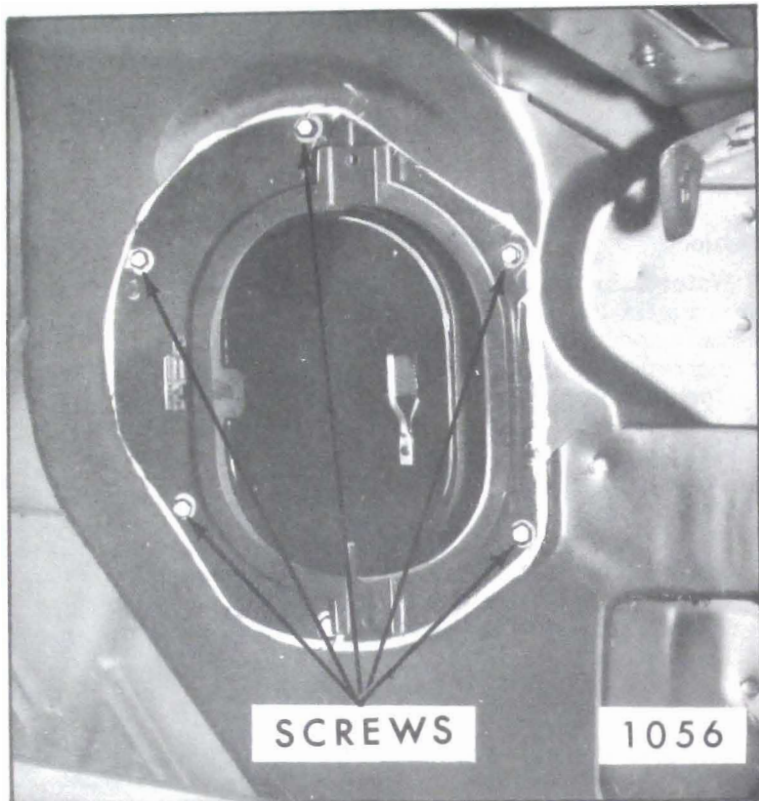

Fig. 3-2—Shroud Side Air Outlet Duct
2. Remove screws securing outlet to shroud panel, disengage control cable from outlet and remove outlet (Fig. 3-2).